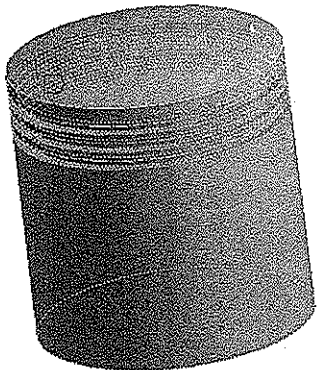

Figure 11-30 Selecting all the outer faces for applying Convection load
9. Choose the **Face** tool from the **Select** toolbar and then select all the outer faces of the piston, refer to Figure 11-30.